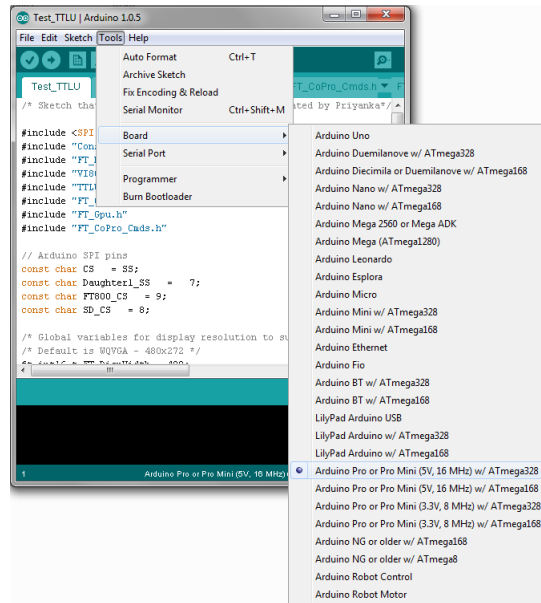

Figure 4-1 Select Board
- Select the Tools->Board-> Arduino Pro or Pro Mini(5V, 16MHz) w/ATmega328 as shown in Fig 4.1.